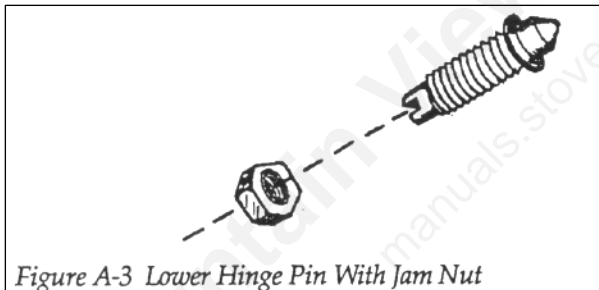

Figure A-3 Lower Hinge Pin With Jam Nut
- Install the hex jam nut on the threaded lower hinge pin and thread it up to the flange (See **Figure A-3**).